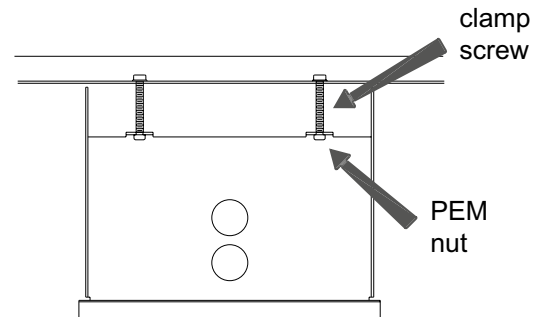

Figure 2
2. Loosen 2 clamp screws on back of luminaire, so that no screw threads are showing past PEM nuts. See Figure 2. Set mounting plate and gasket aside. **Note: Do not remove screws or clamp!**